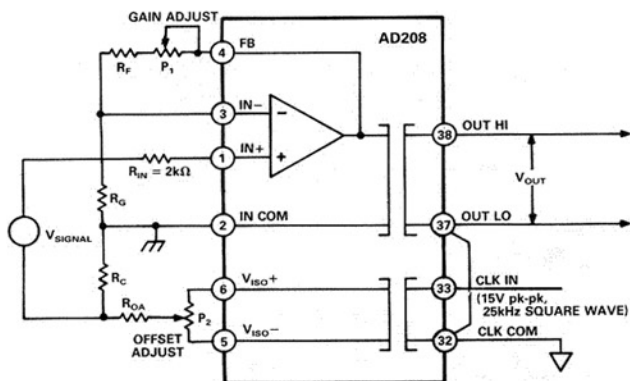

Figure 34. Input Adjustment Circuit for the Noninverting Mode of Operation
**Offset Adjustment.** Figure 34 shows the suggested input adjustment connections when the isolator's input amplifier is configured for the noninverting mode of operation. The offset adjustment circuit injects a small voltage in series with the low side of the signal source. The adjustment potentiometer  $P_2$  is responsible for nulling out the offset voltage. A  $100\text{ k}\Omega$   $P_2$ ,  $50\text{ k}\Omega$   $R_{OA}$  and a  $100\ \Omega$   $R_C$  should provide an offset adjustment range (Referred to Input) of about  $\pm 15\text{ mV}$ . Since the offset is zeroed out ahead of the gain, the values given above for  $P_2$ ,  $R_{OA}$  and  $R_C$  should work for any gain on the isolator.
- To minimize CMR degradation it is recommended that the resistor  $R_C$  (shown in Figure 34) be below a few hundred ohms.
- The offset adjustment circuit of Figure 34 will not work if the signal source has another current path to input common, or if current flows in the signal source LO lead. If this is the case, use the output adjustment procedure.
**Gain Adjustment.** Figure 34 also shows the suggested gain adjustment circuit. Note that the gain adjustment potentiometer  $P_1$  is incorporated into the gain-setting resistor network at the isolator's input.